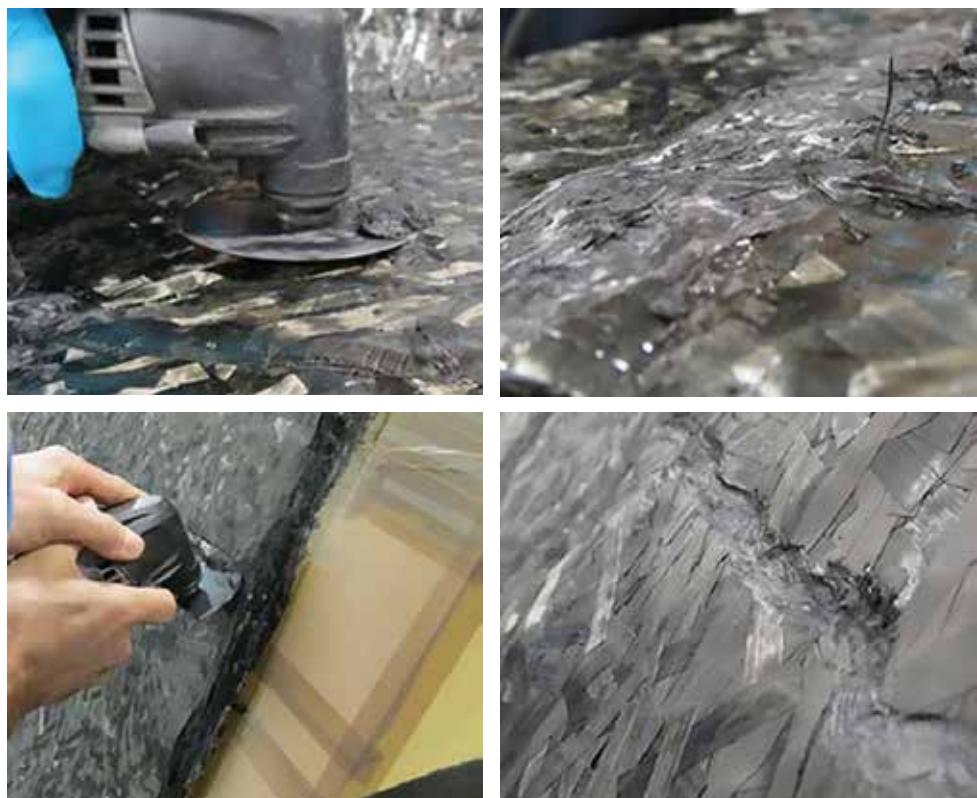

Figure 10: Examples of shaving and trimming material after it has been placed on a tool master (left) and finished appearance (right).
- Shaving and trimming technique shown in Figure 10.